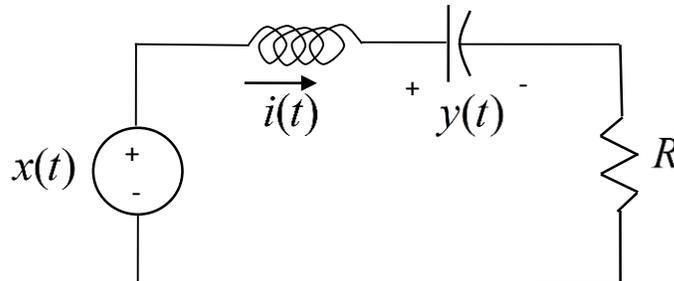

Figure 7. Second order circuit for Part C
- 1) Construct the second order circuit shown in Figure 7. For this circuit, use your variable resistor for R, use a $0.01 \mu\text{f}$ capacitor, and a 33 mH inductor.